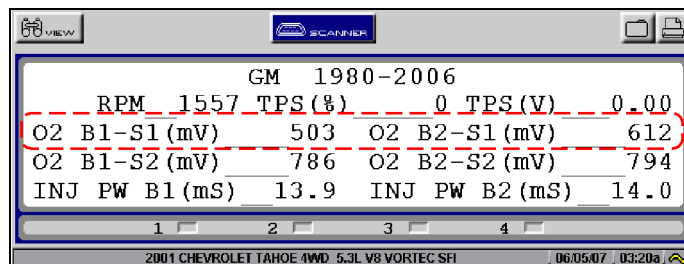

Figure 5-17 Data scrolled into position on line 2
1. Scroll the desired data onto line 2 (Figure 5-17).